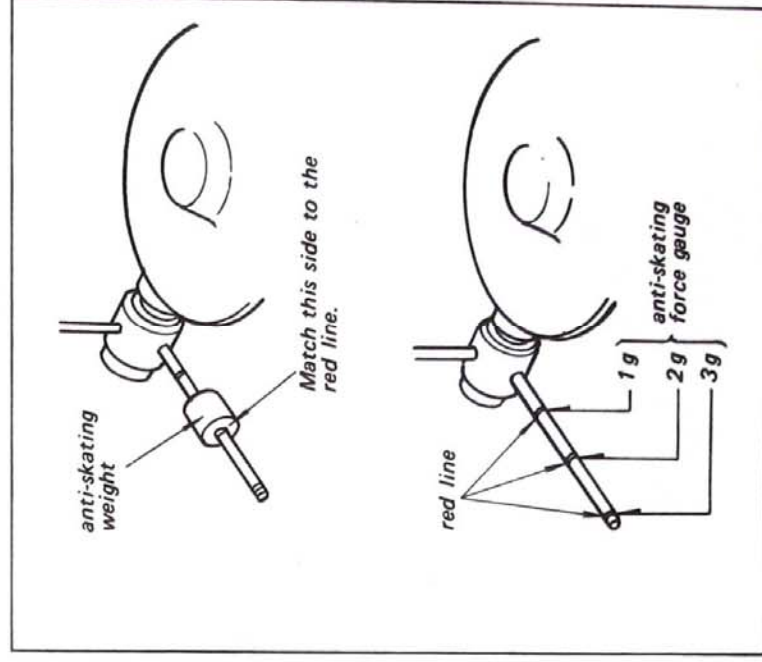

Fig. 3-7. Anti-skating force adjustment
2. Adjust the anti-skating force by matching its left side to the center (2 g) of the three lines on the anti-skating force gauge as shown in Fig. 3-7.
Note: For specific anti-skating force falling between two lines (for instance 1.5 g, etc.), slide the weight to the left or right to set it to the corresponding position between the lines as shown in Fig. 3-7.